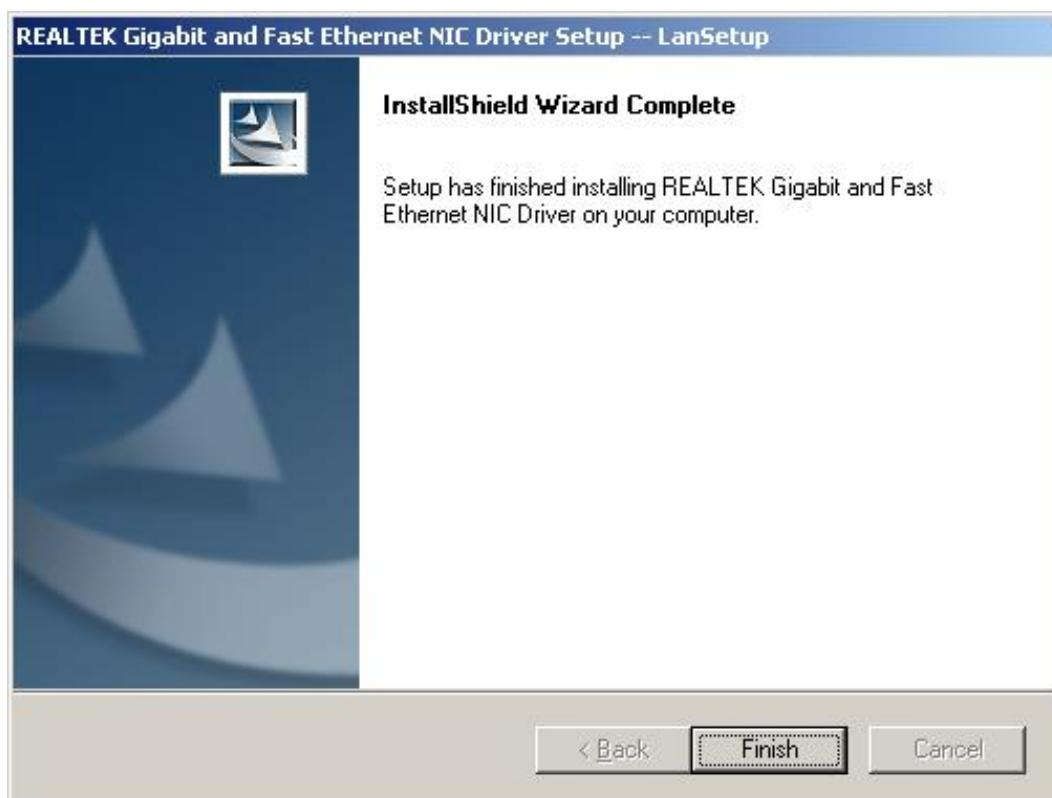

Figure 7-4: Installing Screen
Step 11: Once the installation is complete, the **InstallShield Wizard Complete** screen appears. (See **Figure 7-4**)